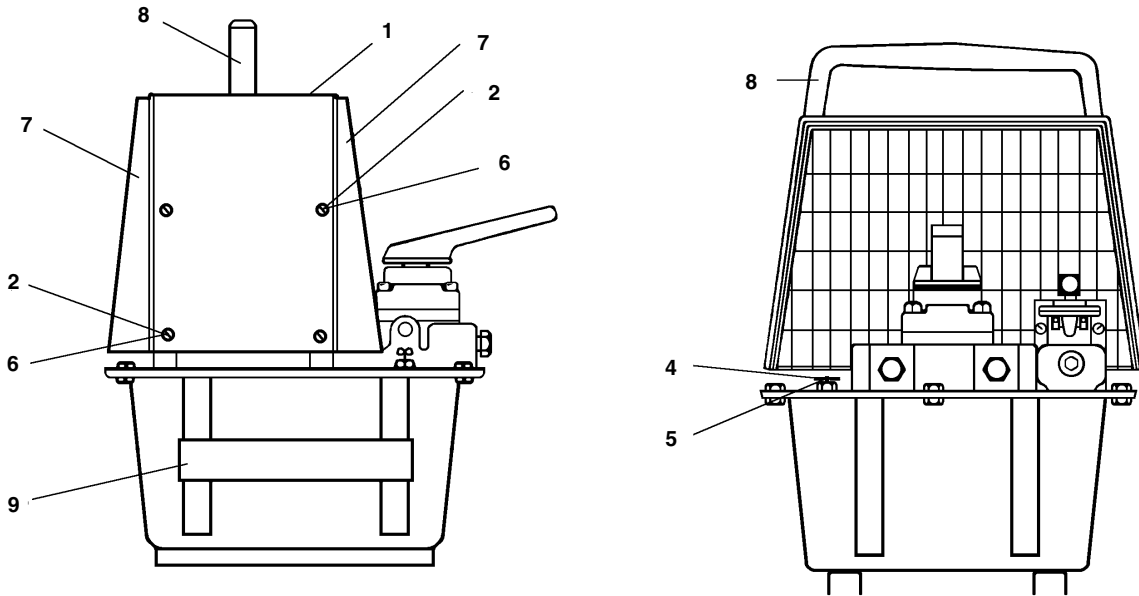

Figure 1, Enerpac Twin-air Pump
**Repair Parts List for Figure 1**